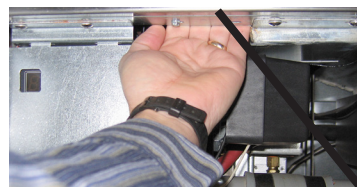
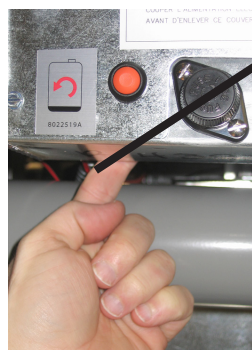

Figure 6
Figure 7
27. Cycle the control power using the hidden reset momentary rocker switch under the left control box in gas (see Figure 6) or behind the right control box over the JIB in electric (see Figure 7). HOLD THE SWITCH FOR 15 SECONDS ENSURING THE MIB BOARD HAS POWERED FULLY DOWN.